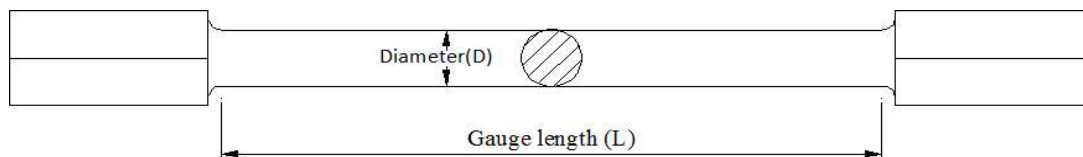

Fig 3 Specimen
1. Measure the diameter and gauge length of the specimen as shown in Fig 3.
6. Plot a graph of torque (T) vs. angle of twist (θ).